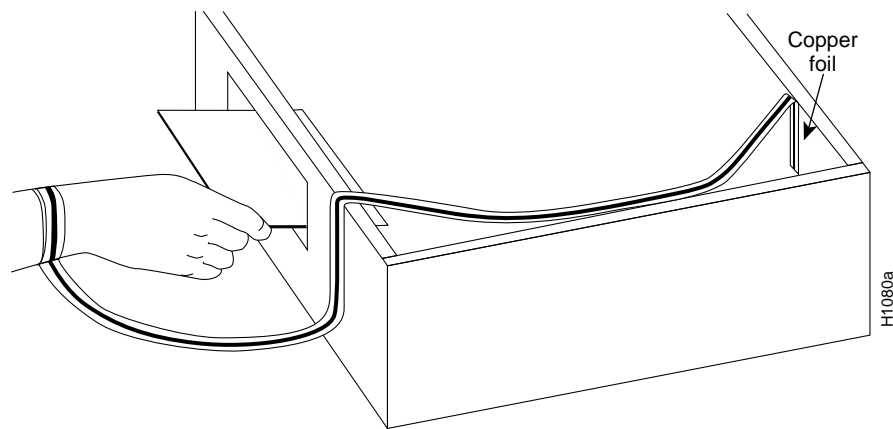

Figure 2-1 Placement of ESD Wrist Strap
- Step 2:* Connect the strap to an unpainted chassis frame surface or another proper grounding point or surface to safely channel unwanted ESD voltages to ground (see Figure 2-1).